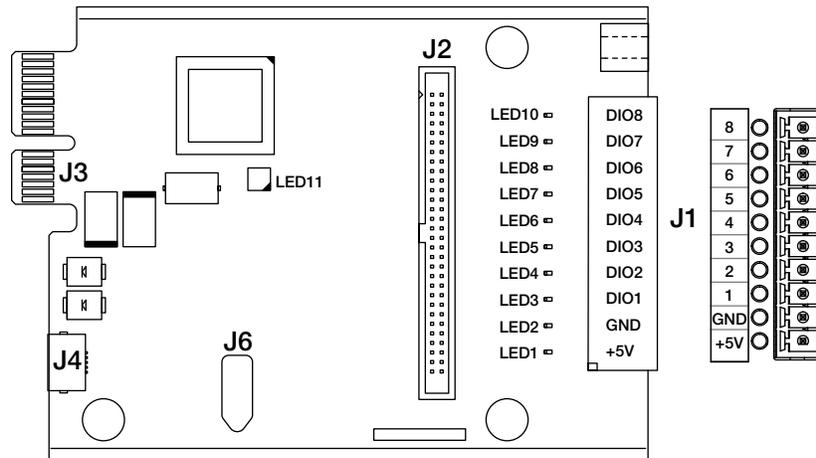

Figure 3. Digital I/O Option Card Board
8. Make connections to the option card. See Figure 3 and Table 2 for pin assignment information.